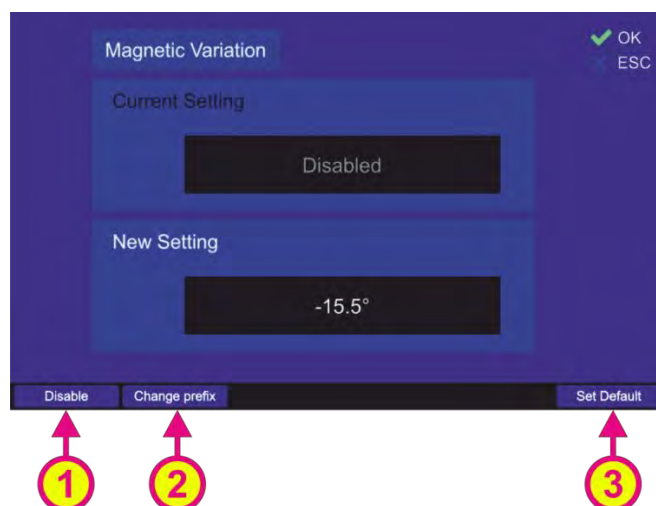

Fig. 122 Input of the magnetic variation value
- Pressing the “Disable” hotkey (s. Fig. 122, position 1) deactivates using of the magnetic variation and deletes its current value.
- To change the sign of the degree value, press the “Change prefix” hotkey (s. Fig. 122, position 2).
- Press the hotkey “Set Default” (s. Fig. 122, position 3) to use the default value (“Disabled”).